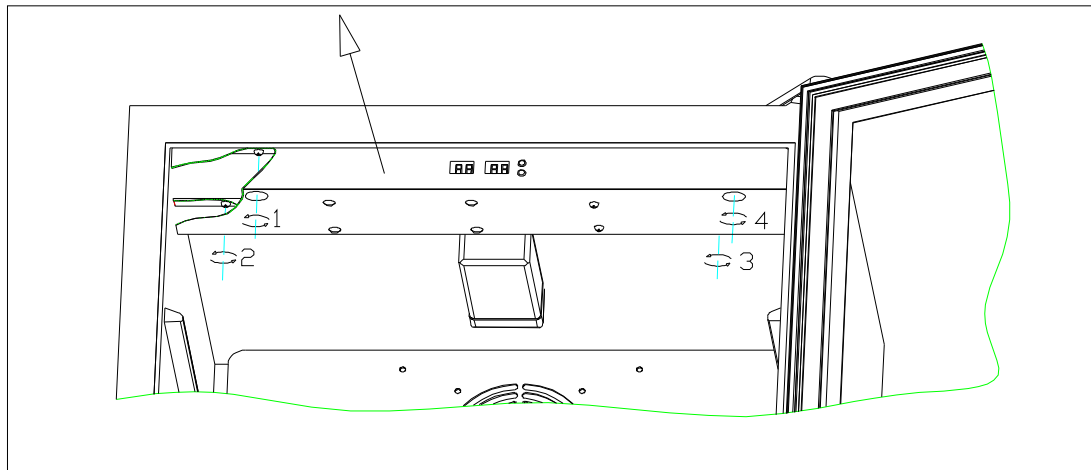
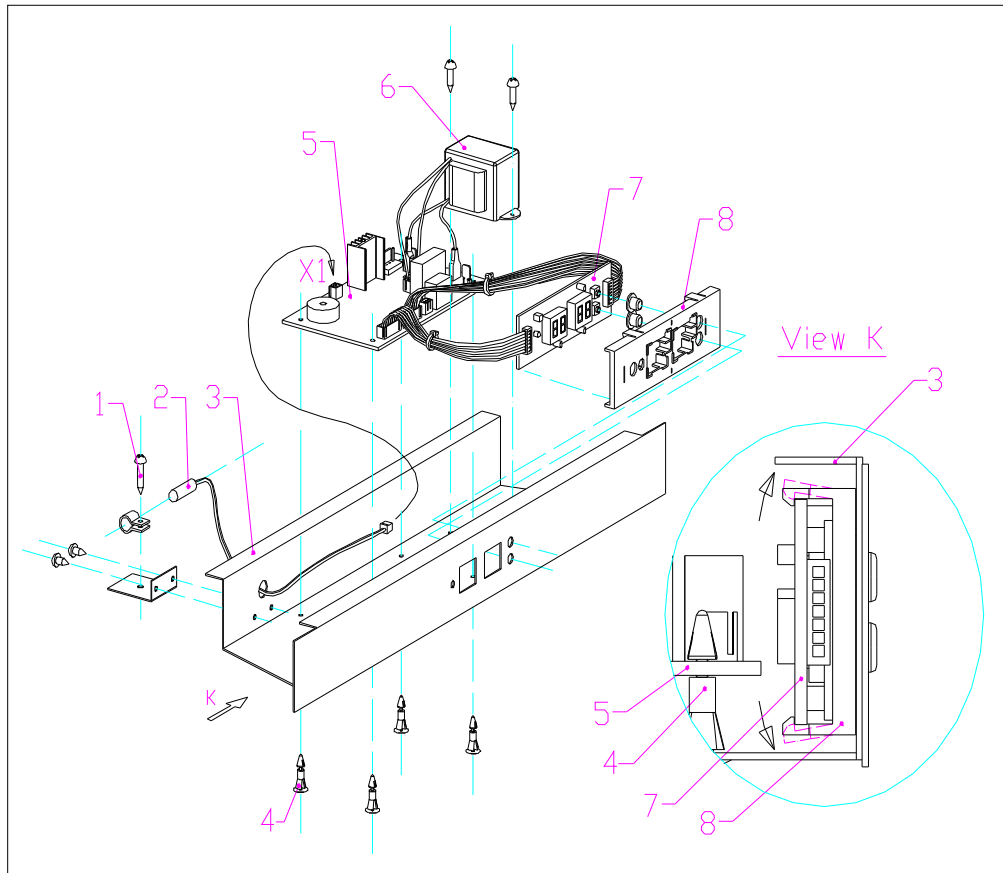

Fig.18
Fig.19
Check the faulty part and relevant connection. If this does not cure the fault replace the control board see (Fig.18 & Fig.19)
- 1 >. Normally the LED temperature display should show the ambient temperature shortly after the unit is plugged in, if not, disassemble the electrical box see (fig 18), check if the sensor plug marked “X1” “X10” connected properly, if these connections are made correctly and the fault persists replace this sensor after the air duct board(Fig.1, Fig.2, Fig.3, Fig.4 & Fig.5).
1 >. Normally the LED temperature display should the ambient temperature shortly after the unit is plugged in, if not, disassemble the electrical box see (Fig.18 & Fig.19), check if the sensor plug marked “XI” connected properly, if this connection is made correctly and the fault persists replace this sensor,
- 2 >. If the LED displays” E1” it indicates the inner sensor should be replaced see (Fig.18 & Fig.19)
- 3 >. If the LED displays” E2” it indicates the inner sensor should be replaced see (Fig.18& Fig.19)
- 4 >. For some older models with old computerized control panels,If the LED displays 37°C, 99F or, infinity, replaces the sensor. See(Fig.18& Fig.19)
Replace the electrical display board fault; see (Fig.18& Fig.19)
- 2 >. Remove the two screws at back of electrical box (2,3), then half-remove the two front screws (1,4), then remove the electrical box; see (Fig.18)
- 3 >. Remove the sensor fixing screw (1), unplug the other end from “X1” housing of the control board, and fit a new sensor; see; (Fig19)
- 4 >. Unplug all the connectors, then press the head of each of the four plastic screws (4) one by one, then remove the control board and replace the control board see (Fig.19)
- 5 >. Remove the two transformer fixing screws and replace the transformer (6);(Fig.19)
Pull the four 4 display cover (8) fasteners as per arrowhead direction, and then remove the display board and its two connectors from both sides. Replace the display board. See (Fig.19)
model1: PCB board is a complete block,and in the electicial box of the same box with the transformer;(Fig.19)
Unplug all the connectors from the control panel, and press the 4 studs (4) one by one, and up draw the control panel, Replace it with the same model’s PCB board; (Fig.19)
- a. Remove the the shelf , (Fig.19)
- b.Unplug all the connector, press the 4 studs (3) one by one. Updraw the control PCB board, and draw off the PCB board, , replace it with the same model's PCB board. (Fig.19)
- a. Remove the screw fixing lamp cover(Fig.18),take off the lamp cover(Fig.23).